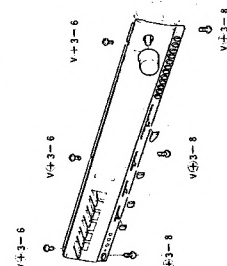

Fig. 7
- 2) Remove 6 screws. (Refer to Fig. 7)